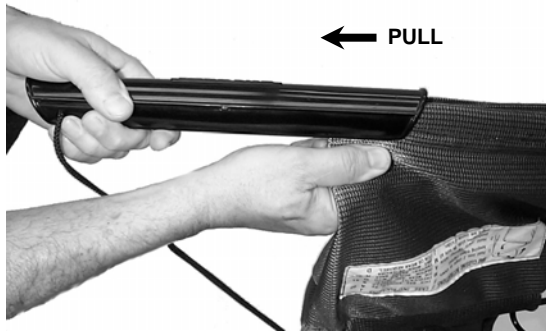

FIGURE 2.16
3. Dump bag by pulling bag slider off of Z-Fold at rear of bag, opening bag. See Figure 2.16
5. Grasp the edge of the Z-fold, and while holding the slider, pull the Z-fold fully into the slider. See Figure 2.16 (next page).